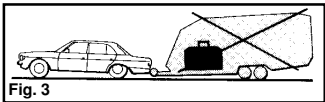

Fig. 3
**Load Too Far Forward Fig 3.**